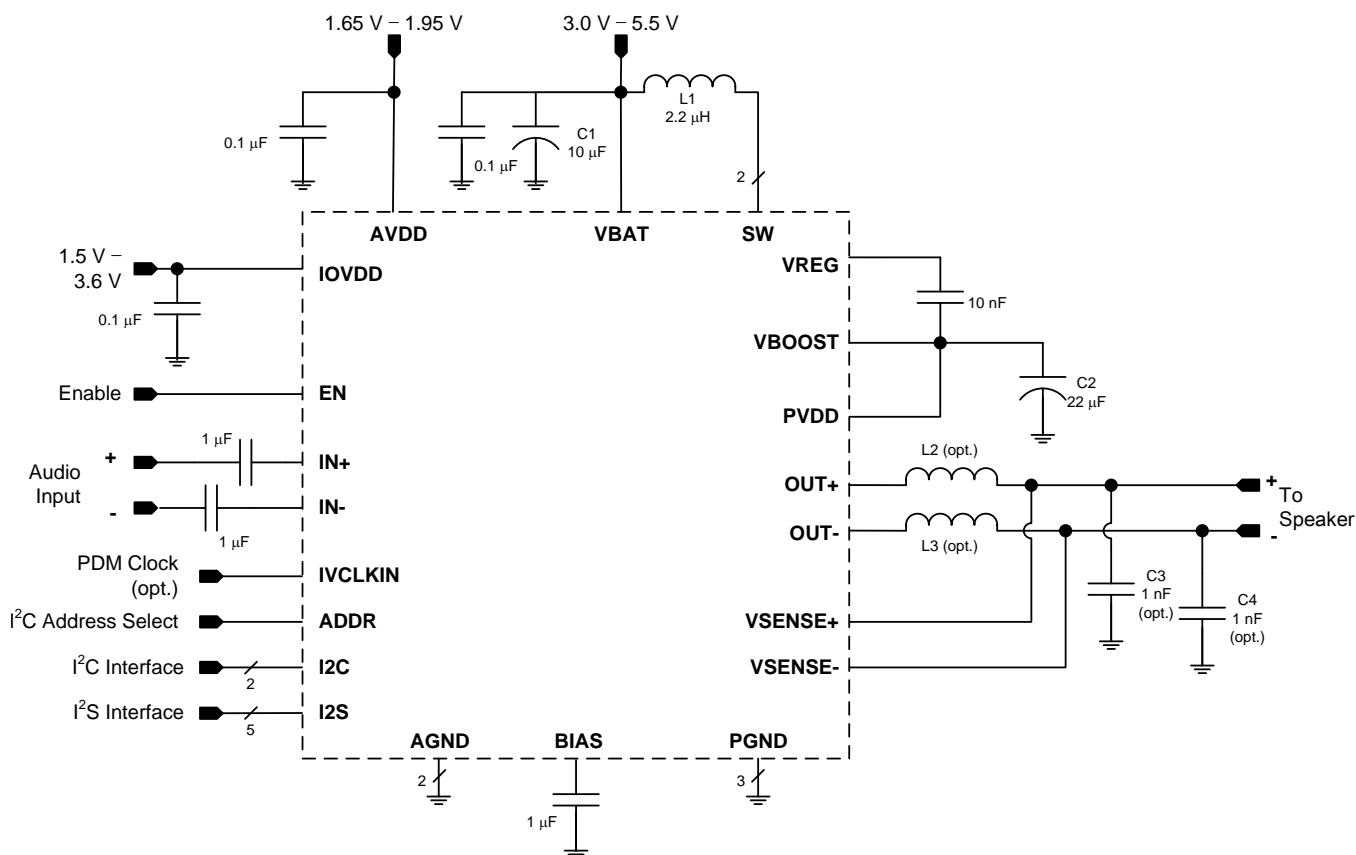

Figure 56. Typical Application Schematic
The decoupling capacitors for the power supplies should be placed close to the device terminals. For VBAT, IOVDD and AVDD, a small decoupling capacitor of 0.1 μ F should be placed close to the device terminals. Refer to Figure 56 for the schematic.
The boost supply (VBAT) and associated passives need to be able to support the current requirements of the device. The peak current limit of the boost is 2.5 A. A minimum of a 10 μ F capacitor is recommended on the boost supply to quickly support changes in required current. Refer to Figure 56 for the schematic.
- Use supply decoupling capacitors as shown in Figure 51 and Figure 56 and described in Power Supply Recommendations.